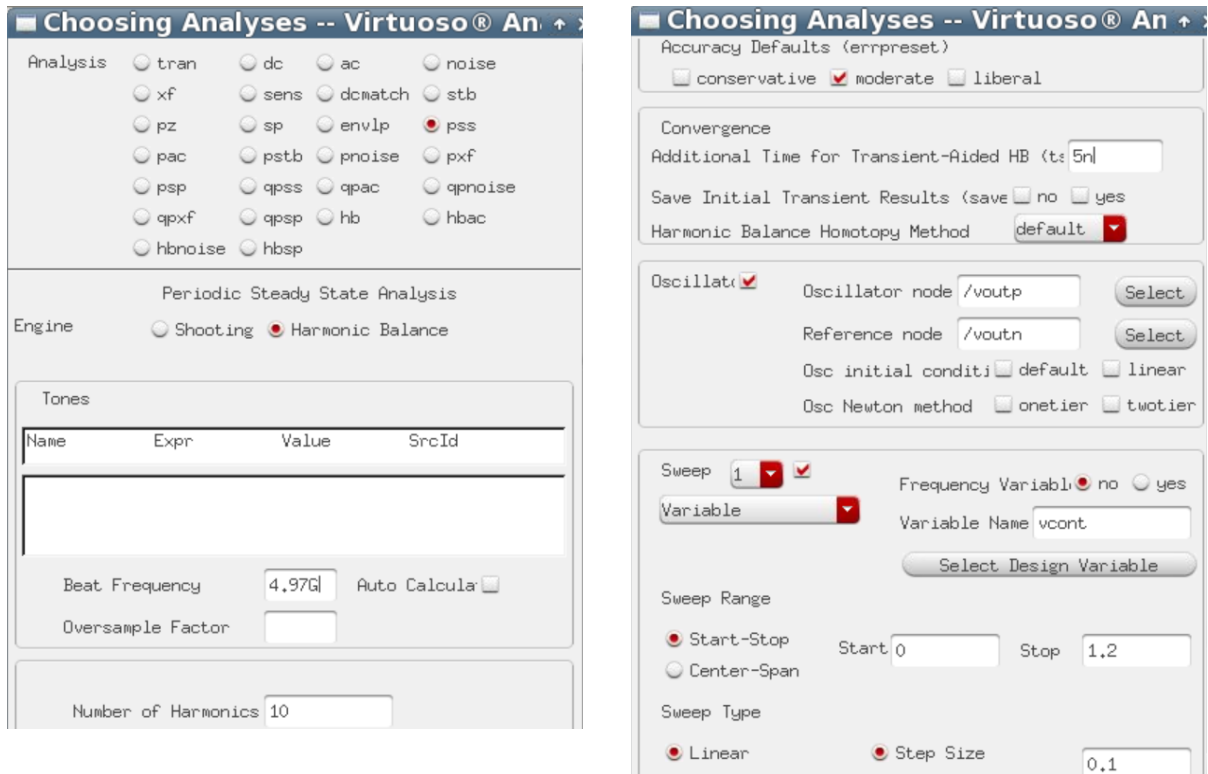
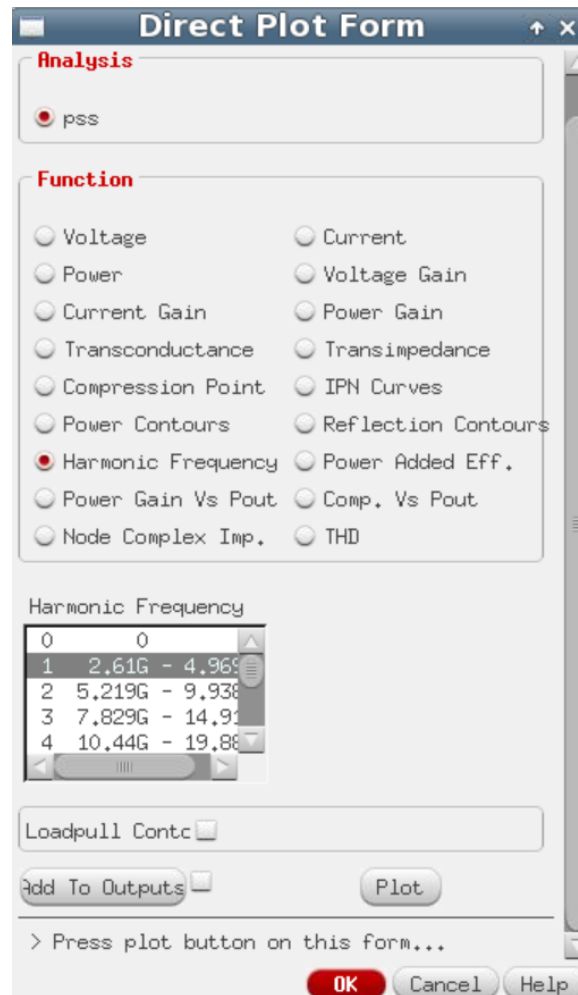
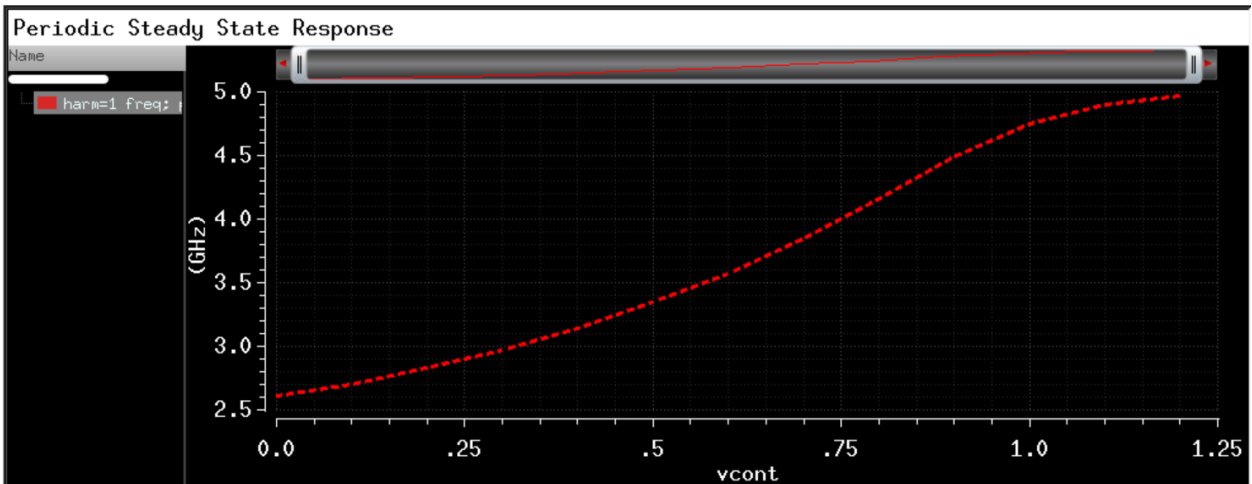

Fig. 6: Setting up the PSS analysis for measuring K_{vco}
Fig. 7: PSS direct plot form
Fig. 8: Frequency range versus vcont
- 2) We can now proceed to the PSS analysis. From the ADE window, go to Analysis → Choose → pss. Setup the pss analysis as in figure 6. Enter the measured value of beat frequency and tstab from the transient simulations performed in the previous step. Note that you should select “Oscillator” and choose voutp and voutn as the oscillator and reference nodes. Since we want to measure the tuning range and K_{VCO} , sweep the vcont in the desired range with linear sweep type. Select “Enable” and press ok on top of the “choosing analysis” window. Now, run the simulation and after simulation is performed, in the ADE window, go to results → direct plot → main form. As in figure 7, choose pss and under “Function”, choose “Harmonic Frequency”. Select the first harmonic frequency and plot it.
Figure 8 shows the frequency range versus v_{cont} . You can derive the K_{VCO} by measuring the slope of this curve. You can also calculate the tuning range of the VCO by finding the f_{max} and f_{min} (where else could you see the measured f_{min} and f_{max} ? Look at Figure 7 for the answer!). This VCO has a large tuning range!